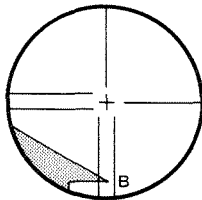

Fig. 13.18
- 2) Turn the telescope slowly upward with the vertical fine motion screw ⑨ until the target slides to the lower part B, Fig. 13.18. If the target is still centrally within the vertical lines no adjustment is necessary. If necessary, adjust as follows.